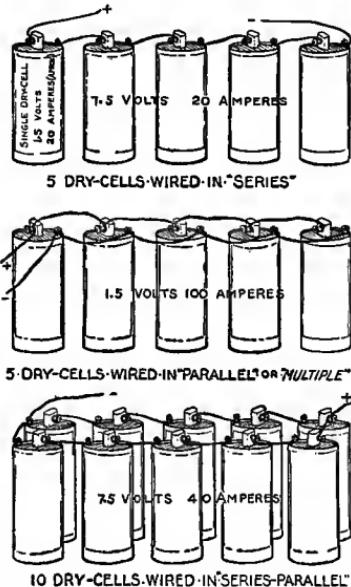

FIG. 241. — The Three Methods of Wiring Battery Cells.
**Methods of Connecting Battery Cells.** Battery cells may be connected in *series*, *parallel* (also known as *multiple*), or by a combination of both ways, known as *series-parallel*. Figure 241 shows these connections. You will notice that in the *series* connection, the carbon of one cell is connected to the zinc of the cell next to it, that in the *parallel* connection all of the carbons are connected to one wire, and all of the zincks to the other wire, and that in the *series-parallel* connection one-half of the number of cells are connected in series in each of two sets, and then the end cells are connected in parallel. Five cells are shown in the illustrations, but, of course, two, three, or four are connected in the same way.
One of these three methods is always used, according to what *voltage* and *amperage* is required. Figure 241 shows the number of volts and amperes secured with five dry-cells, and two combined sets of five. If the cells are connected in *series*, the set will have the combined voltage of all the cells (7.5 volts), but the current in amperes will equal only that of a single cell (20 amperes, if all cells are alike); while, if the cells are connected in *parallel*, the voltage will equal that of only one cell (1.5 volts), but the current strength, or amperage, will equal the combined amperage of all the cells (100 amperes). Then coming to the *series-parallel* method, each set of five cells will have a combined voltage of the five cells (7.5 volts), and the amperage of one cell (20 amperes), but when the two sets are connected parallel, the amperage will be doubled (40 amperes).